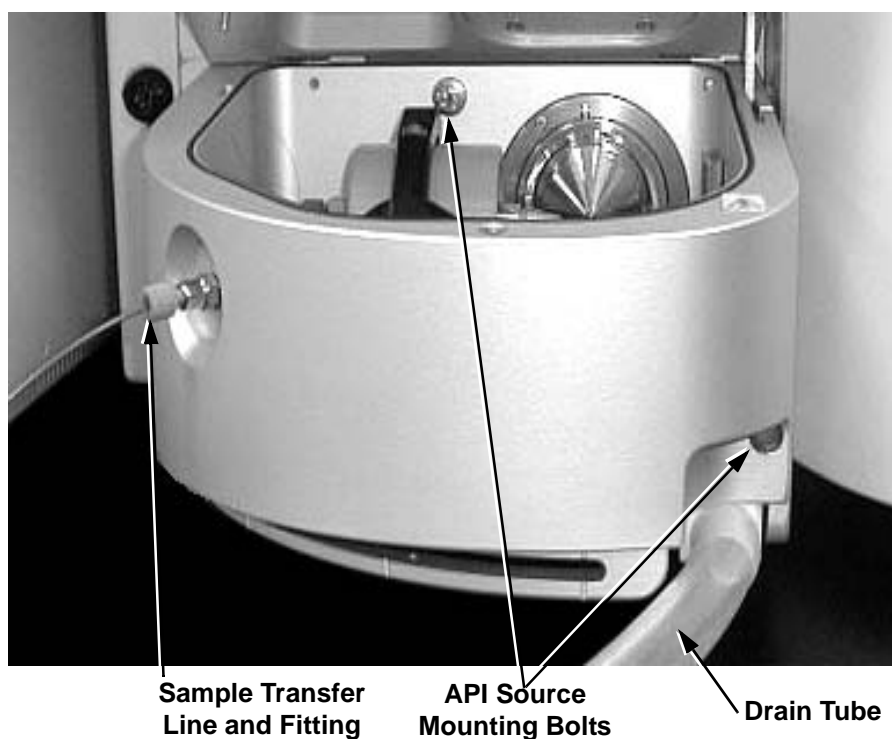

Figure 4-4. ESI source with lid open
7. Connect the sample transfer line and fitting to its connector on the ESI source housing. See Figure 4-4.
4. Disconnect the sample transfer line and fitting (Figure 4-4) from its connector on the ESI source housing. (The sample transfer line is the line that comes from the LC, divert/injector valve, or syringe pump. It is not the fused silica capillary that enters the ESI probe.)
8. While you hold the ESI source housing with one hand, use a hex-head ball driver to loosen the two API source mounting bolts that hold the ESI source housing to the front interface flange (Figure 4-4).